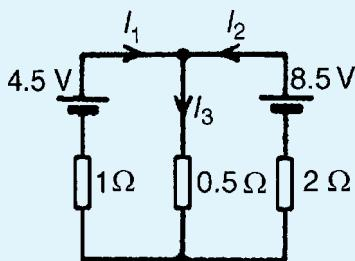

Figure 13.25
1. Use the superposition theorem to find currents  $I_1$ ,  $I_2$  and  $I_3$  of Fig. 13.25